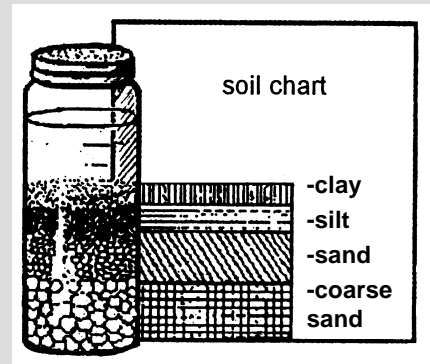

Figure 8. Quantifying Road Material
*To start, fill a large, clear container (glass or plastic) half full with soil from your road. If possible, try sampling soil from the source of the road material (i.e., the gravel pit). Then fill the container with water and shake it well. Allow the container to sit for a period of time until the water becomes clear again. The different types of soil materials in the sample should have settled out in layers, which allows you to see the relative percentage of each type as shown in Figure 8. Fines will be in the top layer, because they are lighter and take longer to settle out. Coarser, heavier particles will settle out first and be on the bottom. In order to calculate the percentage of each soil type, you must first measure the height of the entire soil sample and then the height of each individual soil type. Next, divide the height of each soil type by the height of the entire sample, and multiply by 100.*